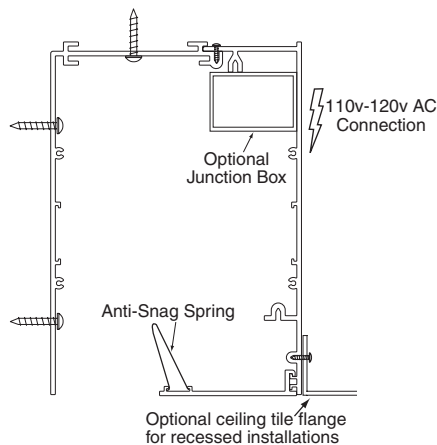

Figure 5
- ① Drill holes through the top of the rear housing as required (see Fig. 5).
- ② Position housing against ceiling and transfer mounting hole locations.
- ③ Install appropriate anchors.
- ④ Mount housing to ceiling.
- ① Drill holes through the back of the rear housing as required.
- ② Position housing against wall and transfer mounting hole locations.
- ③ Install appropriate anchors, and mount housing to wall (see Fig. 5).
- ① Insert anti-slag springs (see also Fig. 5, page 2) into extrusion closest to edge of bottom closure panel.
- ② Insert retainer springs into same extrusion, on each end.